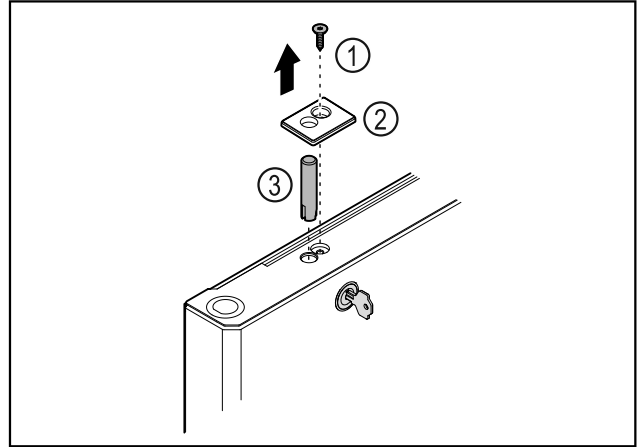

Fig. 43
- ▶ Remove the screw Fig. 43 (1).
- ▶ Unlatch the cover Fig. 43 (2) with a small screwdriver and remove it.
- ▶ Pull out the lock bolt Fig. 43 (3).